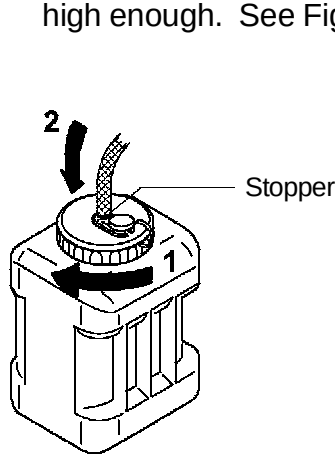

Fig. 19
* Put the Salt Water Hose through the Cap (Accessory) and push in the Salt Water Hose until the Stopper hits the Cap. See Fig. 19.